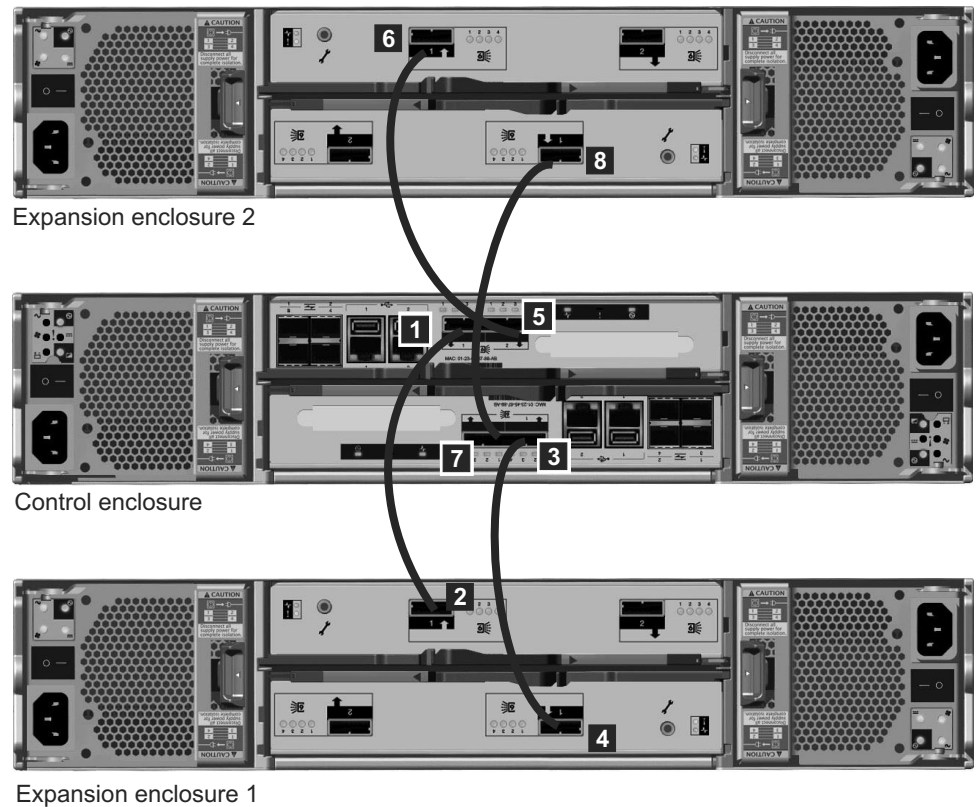

Figure 35. Adding a second expansion enclosure
- Attach the SAS cables from the control enclosure to the second expansion enclosure as shown in Figure 35 on page 47. The second expansion enclosure is above the control enclosure.